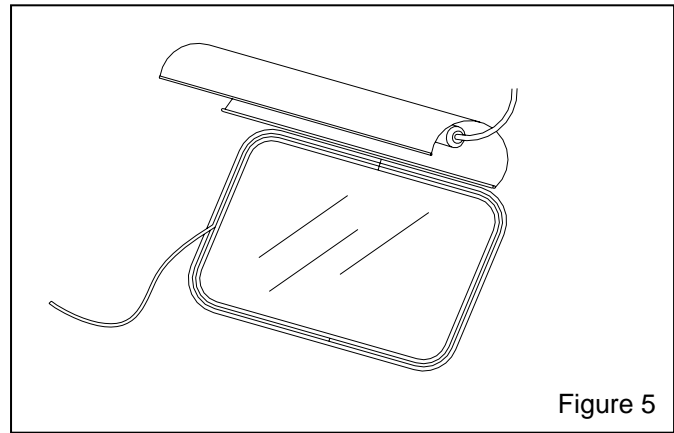

Figure 5
6.3.1. Swing the light-shield up and tie it in place, as shown in Figure 5.
6.3.2. Remove the filler strip by pulling it out of the window molding, as shown if Figure 5.